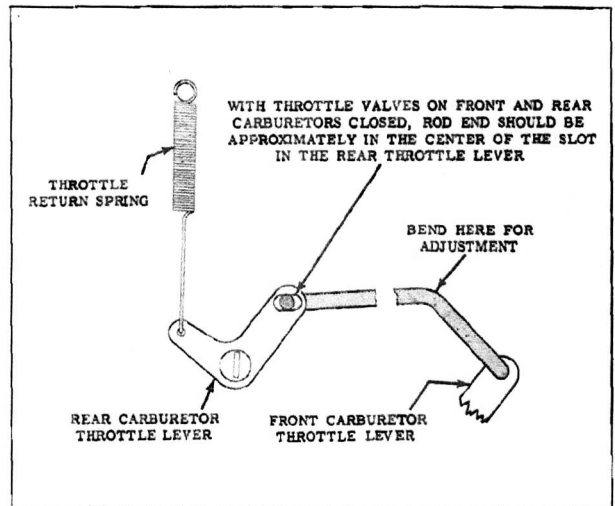

Fig. 12 Front to Rear Carburetor Throttle Rod Adjustment
2. With front of rod attached to throttle lever on front carburetor, rear of rod must be in middle of slotted hole in the throttle lever on the rear carburetor. (See Fig. 12)